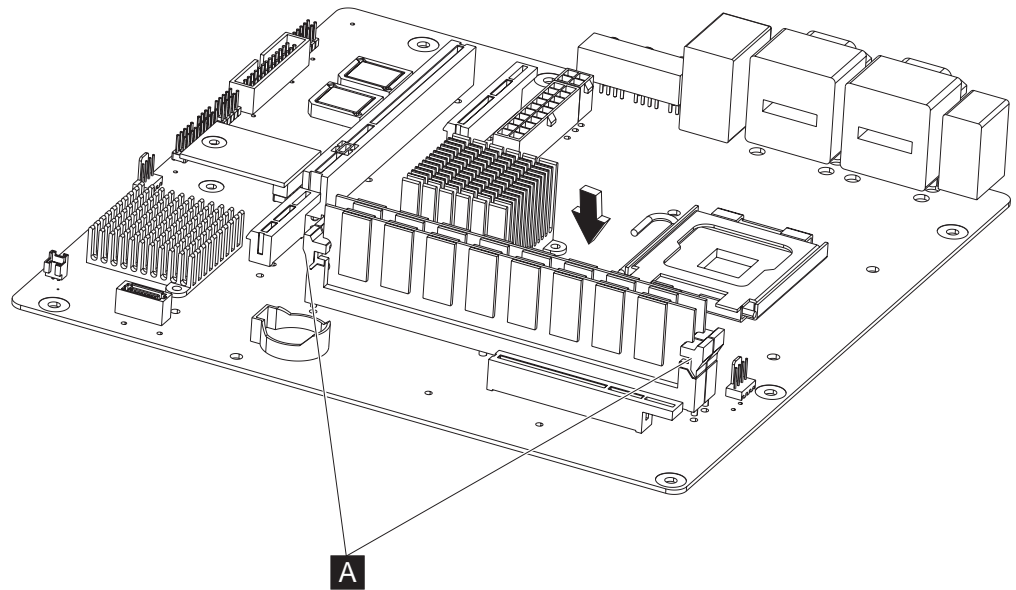

Figure 42. Replacing the memory modules
2. Touching only the top corners of the memory module, align the connector tabs and press down firmly. The white tabs ( **A** in Figure 42) on the connector on the planar board close as the module is inserted.